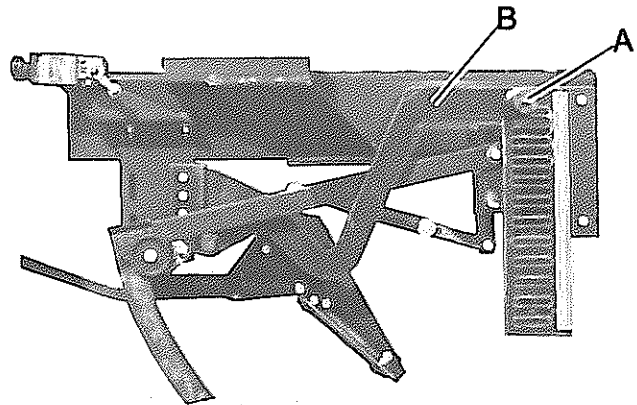

Fig. 10
The Bale Length Adjustment, see **Fig. 10**, is located on the left rear side of the baler. To change the length of the bale, pull the locking pin, (A), out and move the bar, (B), either down to make the bale shorter or up to lengthen the bale. **NOTE:** Each slot represents approximately 1 5/8" change in bale length.